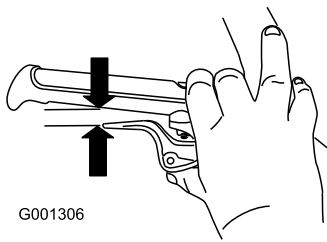

Figure 32
1. Squeeze the lever fully, then check the gap between the bottom of the handle and the wheel-clutch lever end (Figure 32).
2. Repeat for the other cable (Figure 32).